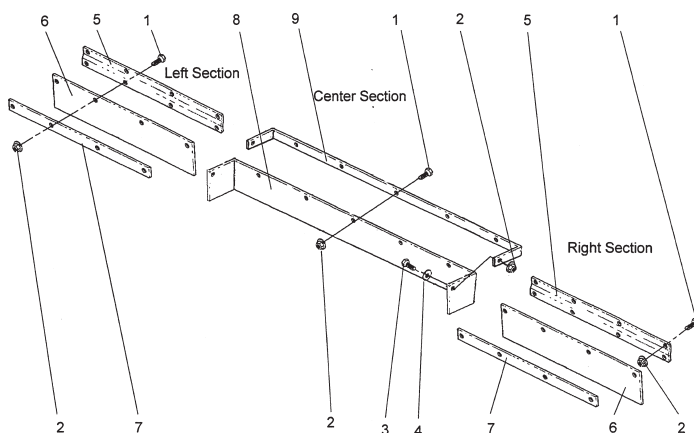
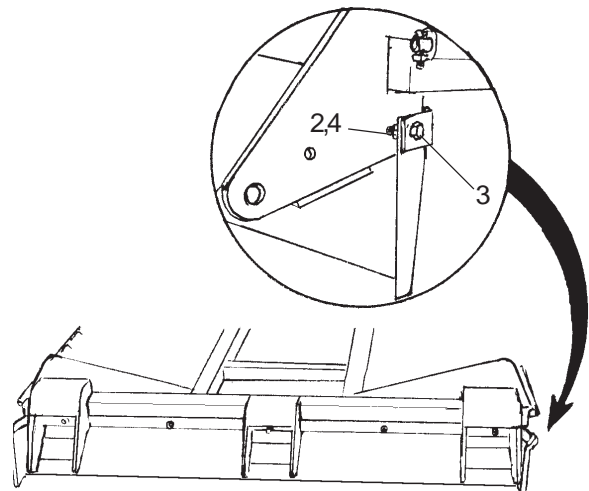

FIGURE 15. Rear Wing Section Deflector Attachment
FIGURE 16. Rear Center Section Deflector attachment
Fasten the Rear Rubber Deflectors (6,8) (FIGURE 15 & 16) to the Center Section and Wing Sections with $1/2" \times 1-1/4"$ bolts (1), locknuts (2), and retaining bars (7,9). Note that the Center Rear Deflector is attached to the inside of the Center Section with $1/2" \times 1"$ Bolts (3), Locknuts (2), and Washer (4) see the detail in FIGURE 16.